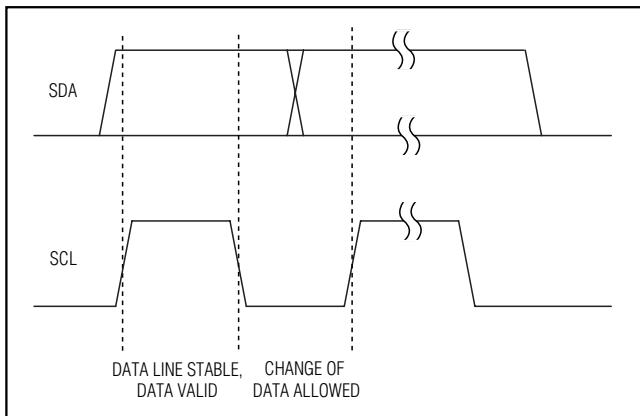
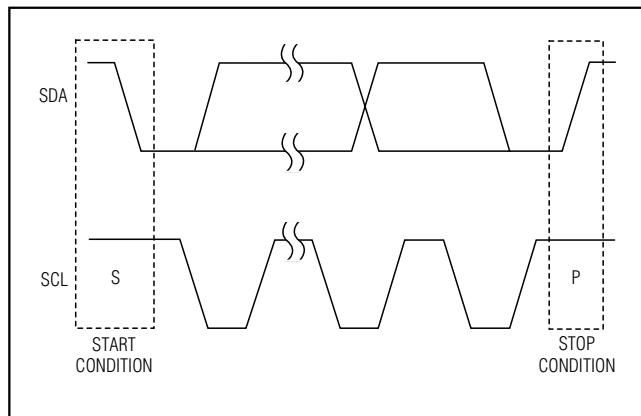

Figure 11. Bit Transfer
Figure 12. Start and Stop Conditions
Each clock pulse transfers one data bit. The data on SDA must remain stable while SCL is high (Figure 11); otherwise, the MAX6876 registers a START or STOP condition (Figure 12) from the master. SDA and SCL idle high when the bus is not busy.
Both SCL and SDA idle high when the bus is not busy. A master device signals the beginning of a transmission with a START (S) condition (Figure 8) by transitioning SDA from high to low while SCL is high. The master device issues a STOP (P) condition (Figure 8) by transitioning SDA from low to high while SCL is high. A STOP condition frees the bus for another transmission. The bus remains active if a REPEATED START condition is generated, such as in the block read protocol (see Figure 11).
A REPEATED START (SR) condition may indicate a change of data direction on the bus. Such a change occurs when a command word is required to initiate a read operation (see Figure 12). SR may also be used when the bus master is writing to several I2C devices and does not want to relinquish control of the bus. The MAX6876 serial interface supports continuous write operations with or without an SR condition separating them. Continuous read operations require SR conditions because of the change in direction of data flow.